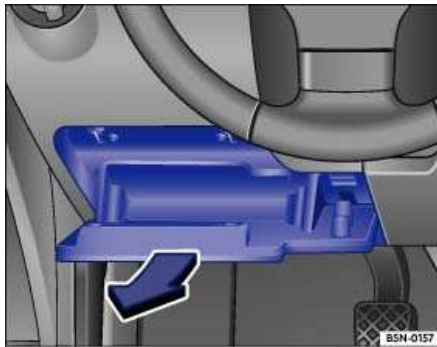

Fig. 40 Left side of the instrument panel: Fuse box cover.
- Open the compartment ⇒ Fig. 40 and with using some force, pull it out in the direction of the arrow.